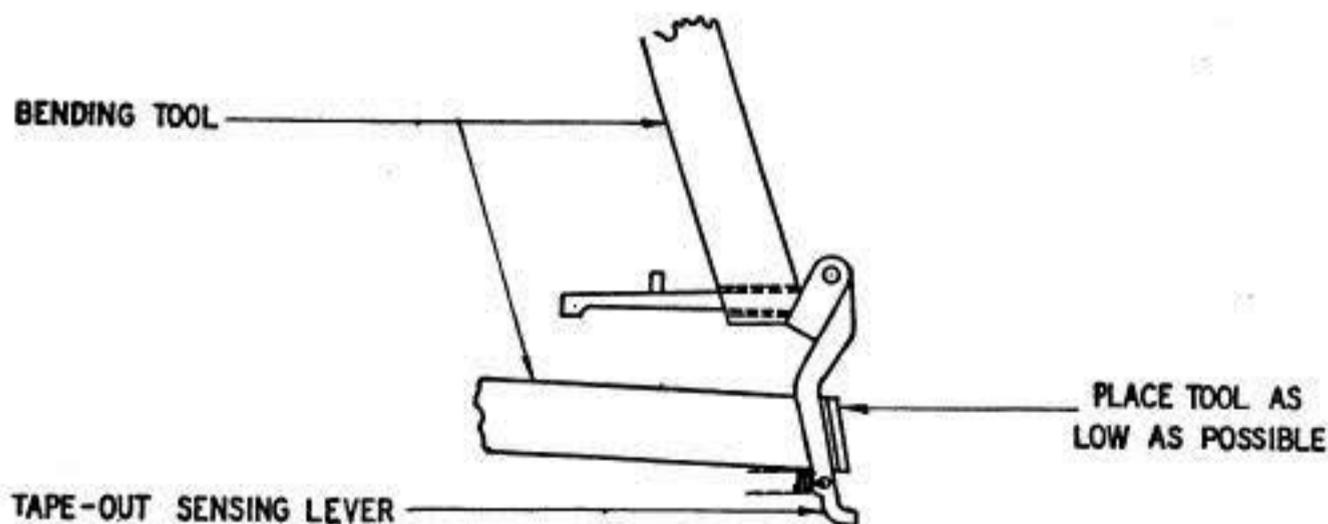

Fig. 9
(1) To adjust, place the bending tool on the lever as shown in Fig. 9 and bend the vertical leg of the sensing lever. **Figs. 9, 10**